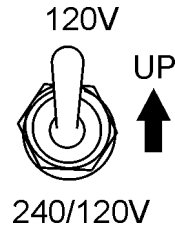

Figure 19. Full Power Switch 120 V Position (Up)
- Place the full power switch (Figure 19) in the 120V position (up).